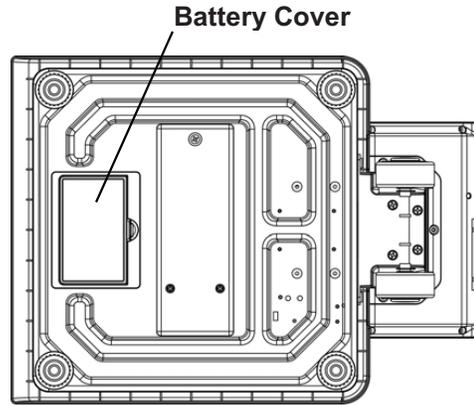

Figure No. 20
1. Referring to Figure No. 20, locate the rectangular battery cover on the bottom of the scale.